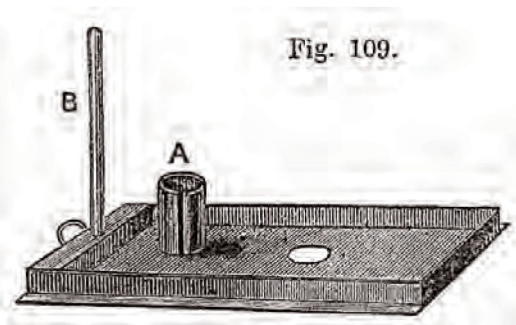

Fig. 109.
5. Lantern 'lighting tray' with socket for insertion of lamp (Fig. 109 of Highley's *Technical Educator* article)